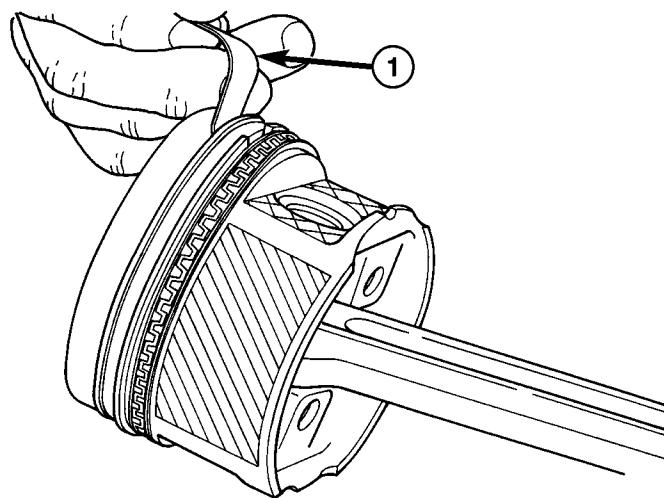

Fig. 70 Piston Ring Side Clearance
(2) Check piston ring to groove side clearance (Fig. 70). Refer to Engine Specifications.